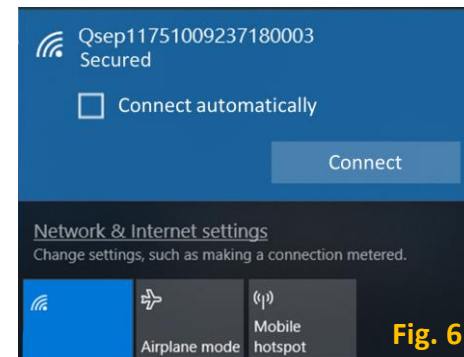

Fig. 6
- Find the SSID named with “*Qsep1+instrument ID* (16 digits)” and click “Connect” (Fig. 6)